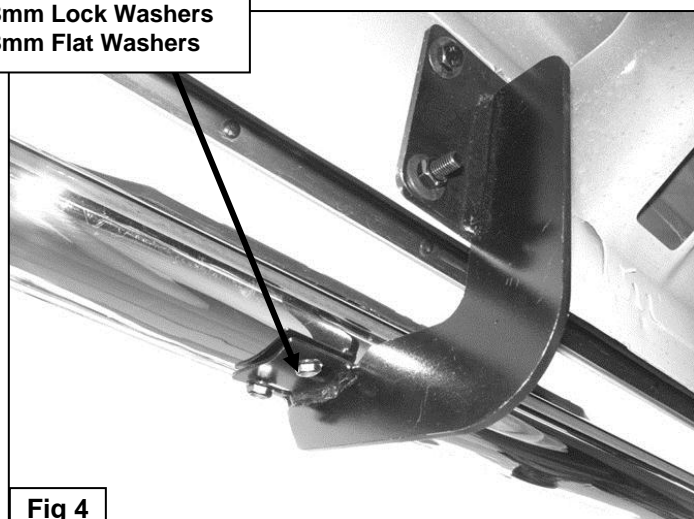

Fig 4
6. Carefully unwrap and position the Sidebar onto the Mounting Brackets. Bolt the Sidebar to the Brackets with (4) 8mm x 25mm Hex Bolts, (4) 8mm Lock Washers, and (4) 8mm Flat Washers, (**Figure 4**). Do not tighten at this time.